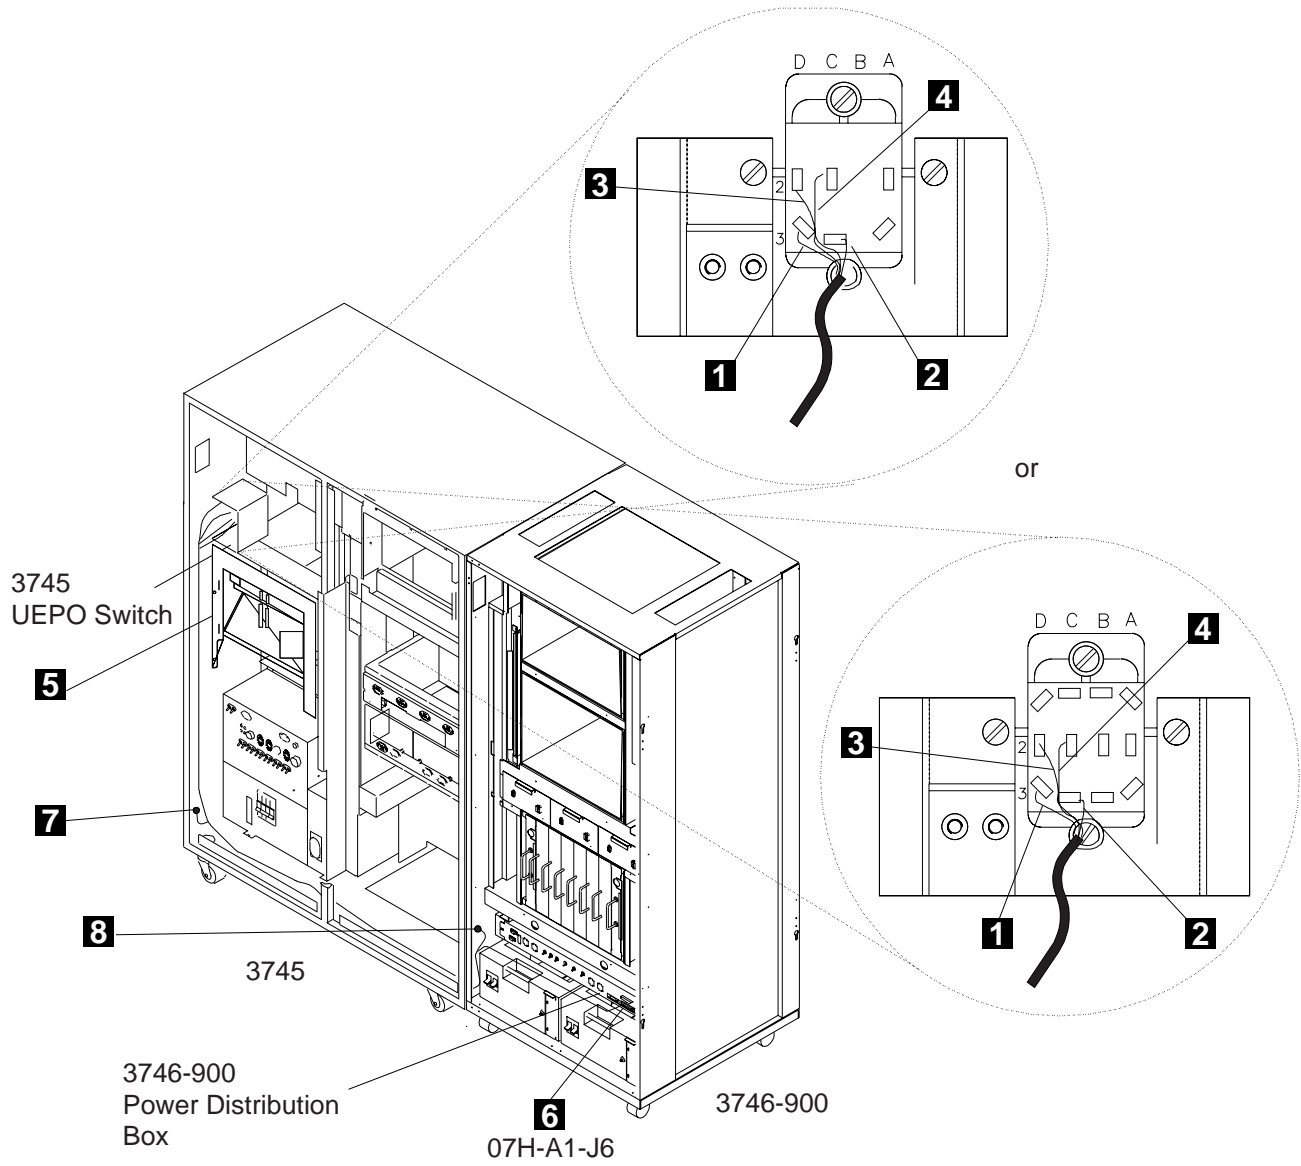

Figure 4-10. 3746-900 UEPO Cable Routing (3746-900 Attached to a 3745-X1A)
- Step 1. \_\_\_\_ Plug the connector **6** of the UEPO cable (PN 76F9341) in location 07H-A1-J6 of the 3746-900 power distribution box. (refer to Figure 4-10 on page 4-12 for location)
- Step 4. \_\_\_\_ Route the cable through the hole at the bottom left side of the 3746-900 (front view), along the bottom of the 3745 base frame, and up to the 3745 control panel (refer to Figure 4-10 on page 4-12).